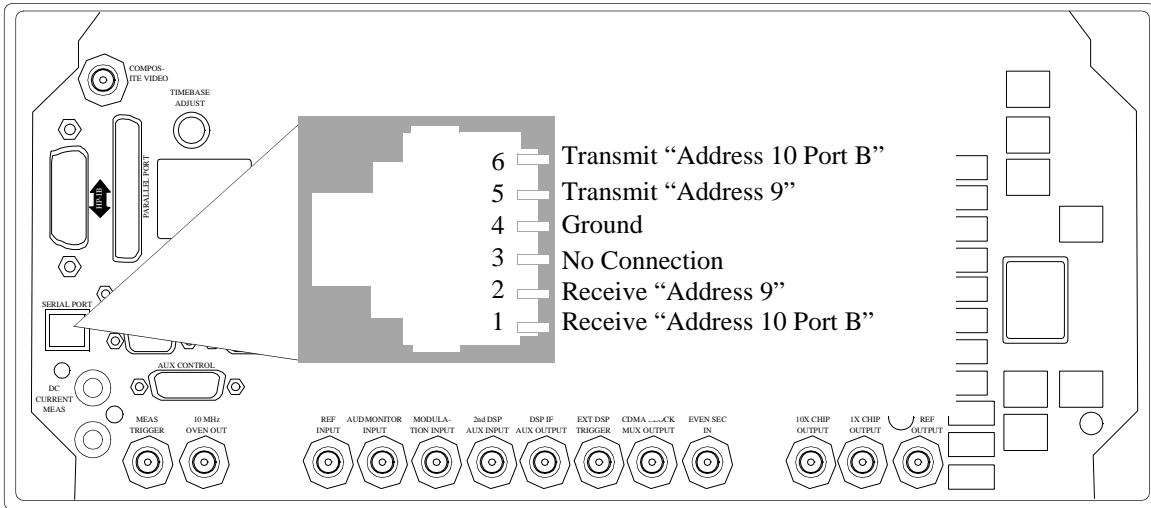

Figure 4 Serial Port Pinout
- RJ-11 (see figure 4 on page 84)
- The IBASIC controller sends and receives data to the serial ports using address **9** for the primary port (A), and address **10** for the secondary port (B). For example, to enter data from the primary serial port (A) into a program variable named SDATA, you could use the command: ENTER 9;SDATA
- Using Port B: The secondary serial port (B) is only used with IBASIC programs to communicate with other equipment when the primary serial port is used for printing or data collection. Port B cannot be used for printing screens, and its communication settings can only be changed using IBASIC commands.